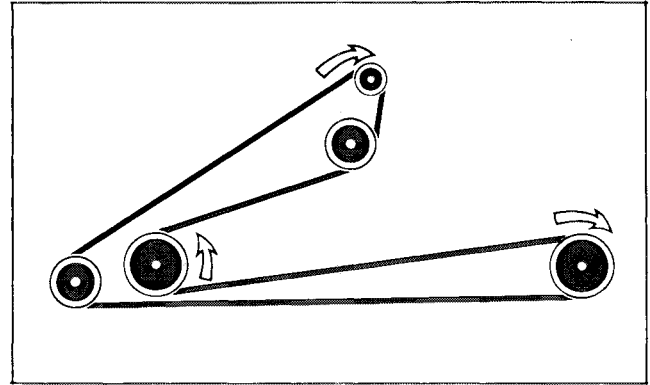

Figure 17
4. Install new belt around spindle pulleys and idler pulley (Fig. 17).